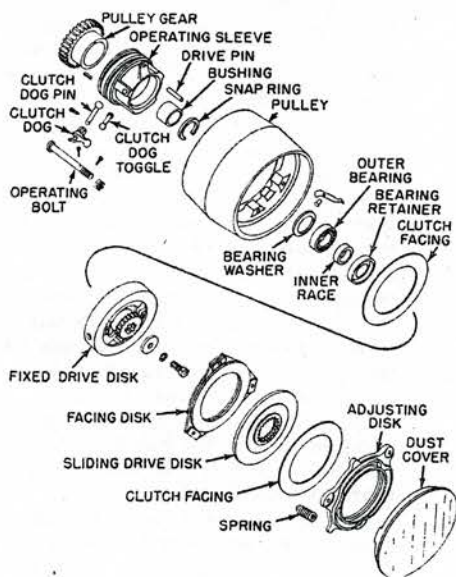

Fig. 25A Exploded view of pulley and clutch. Models 50, 60
**MODELS 50, 60**—All clutch parts are contained in the pulley. Fig. 25A shows an exploded view of the assembly.
If the clutch facings are worn or badly glazed, replace them and install all remaining parts in the sequence shown in Fig. 25A. Be sure the "V" marks on the drive disc and end of crankshaft are lined up. Draw the cap screw up securely. And adjust the clutch as outlined above.
**ASSEMBLY**—Assemble the parts in the sequence shown in Fig. 25A. And when installing the pulley on the tractor, use a screw driver to move the operating sleeve as far as possible towards the pulley gear.